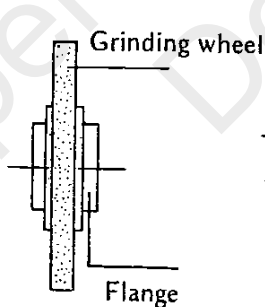
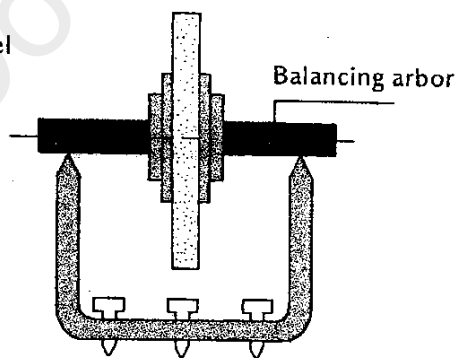

Fig 1
Fig 2
After assemble the wheel and wheel flange (Fig 1), put on the balance rod and place on the balancing stand (Fig 2), then follow the points below:
- \* When you dress grinding wheel, diamond inevitably wear along the machining direction, so that the diamond dresser has to be put at the position of angle  $6^\circ$  slant to keep its sharp. (fig 1)
- \* When you are going to dress the grinding wheel, put the sharp top of diamond dresser at approximately 5mm to the left bottom of grinding wheel, and stop longitudinal movement of working table, then, move cross feed front and rear slowly to dress. (fig 2)
(Fig. 1)
(Fig. 2)